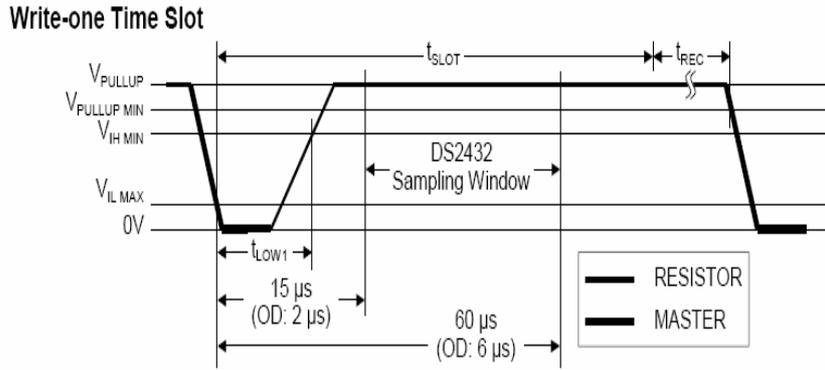

Fig4-98 - Write-one Time Slot
1-WIRE is a non-synchronous half-duplex serial transmission, which requires only one OWIO to transmit data. The typical 1-WIRE transmission structure is illustrated in Figure4-98. During the 1-WIRE transmission, the OWIO can be used to transmit data and supply power to all devices connected to the 1-WIRE. OWIO will link to a 4.7K Ohm Pull-High electric resistance which is linked to the power supply (3V-5.5V). The transmission speed for 1-WIRE can be divided into two types, Standard and High speed. Every 1-WIRE has a unique 64-bit code for the device to recognize. Therefore, the maximum number of link devices is 1.8; almost unlimited.
B. Write 1: If the sampling is high, 1 is generated (note: Read 1 is of a similar waveform pattern) as in Fig4-98: